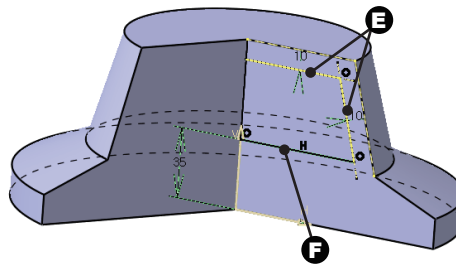

Fig 6-27 The Second Sketch Completed
3. Offset the projected curve 10mm inside the geometry as shown in fig 6-27 **E**.
4. Create an additional line located 35mm above the bottom edge as shown in Fig 6-27 **F**.